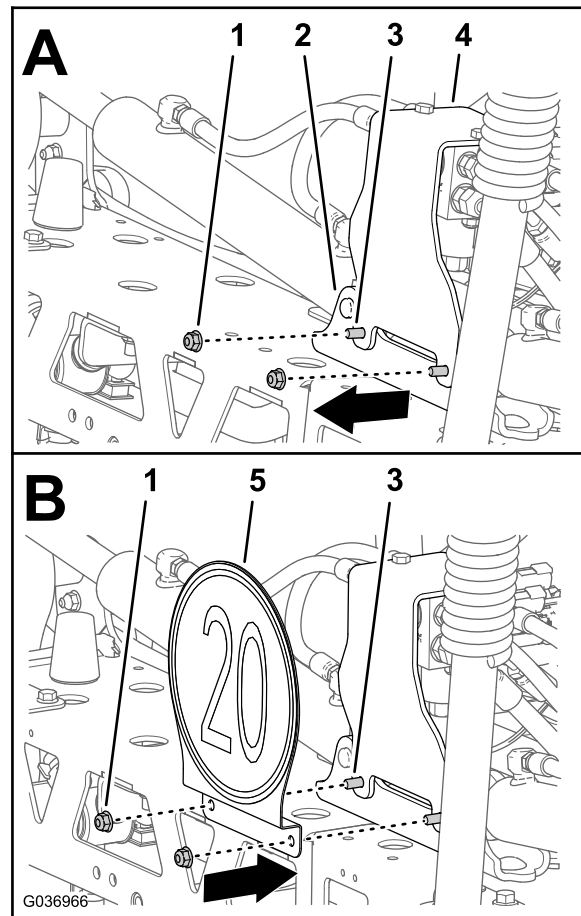

Figure 14
4. Remove the 2 flange locknuts (5/16 inch) that secure the bracket for the lift-cylinder manifold to the lift-cylinder mount (Figure 14).